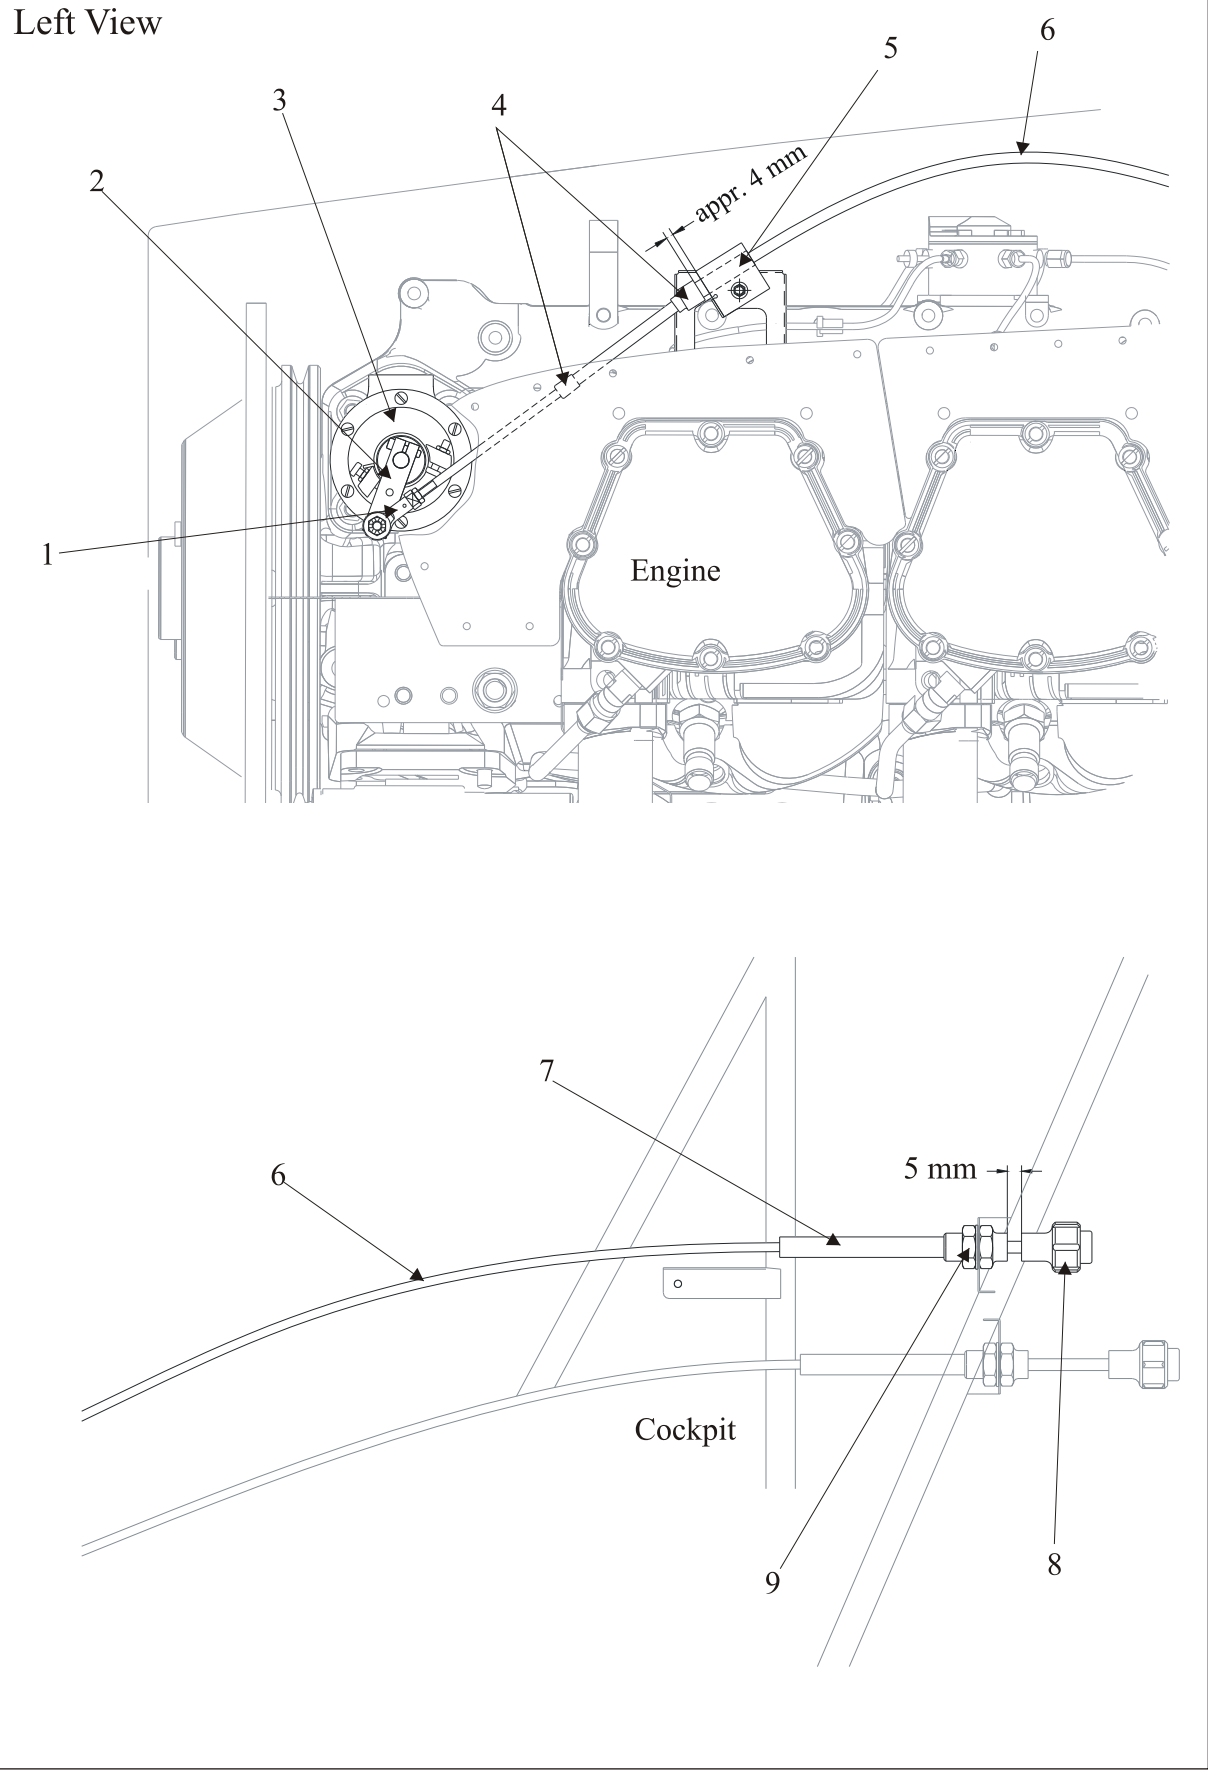

Figure 2
- 4 Remove cotter pin, castle nut, washers and bolt from the rod end (1, Figure 2) to governor actuator (2) attachment.
- 5 Loosen counter nut and remove the rod end (1) from the vernier control cable (6).
- 6 Remove rod end counter nut and vernier control cable rubber parts (4).
- 7 Remove clamp block (5) attachment bolt.
- 8 Remove clamp block from the vernier control cable (6).
- 12 Remove attachment nut (9) and washer of the vernier control unit (7).
- 14 Pull complete vernier control cable (6) aft to remove from aircraft. Secure clamp sheets.